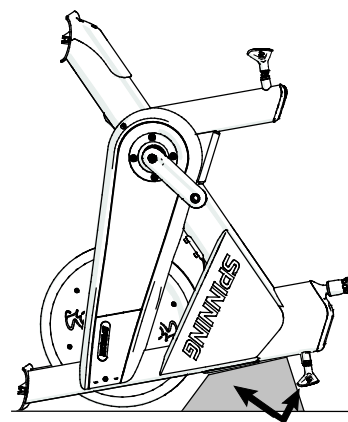

Figure 1
- Stand the bike frame on its front end (toward flywheel) and place a piece of foam under the bike frame (Figure 1) to protect the handlebar adjustment pop-pin stem from damage.